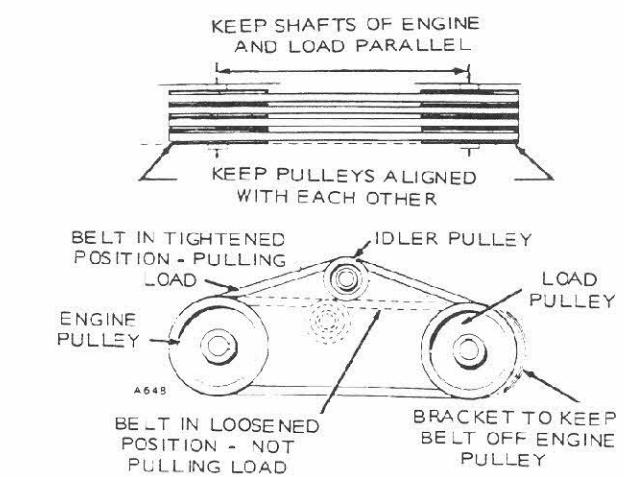

FIGURE 1. DRIVE BELT INSTALLATION
**Belt Drive:** V-belts are preferable to flat belts. Consult a reliable belting supplier for recommendations regarding size of pulleys, number of belts, etc., required. A typical belt drive installation is shown in Figure 1.